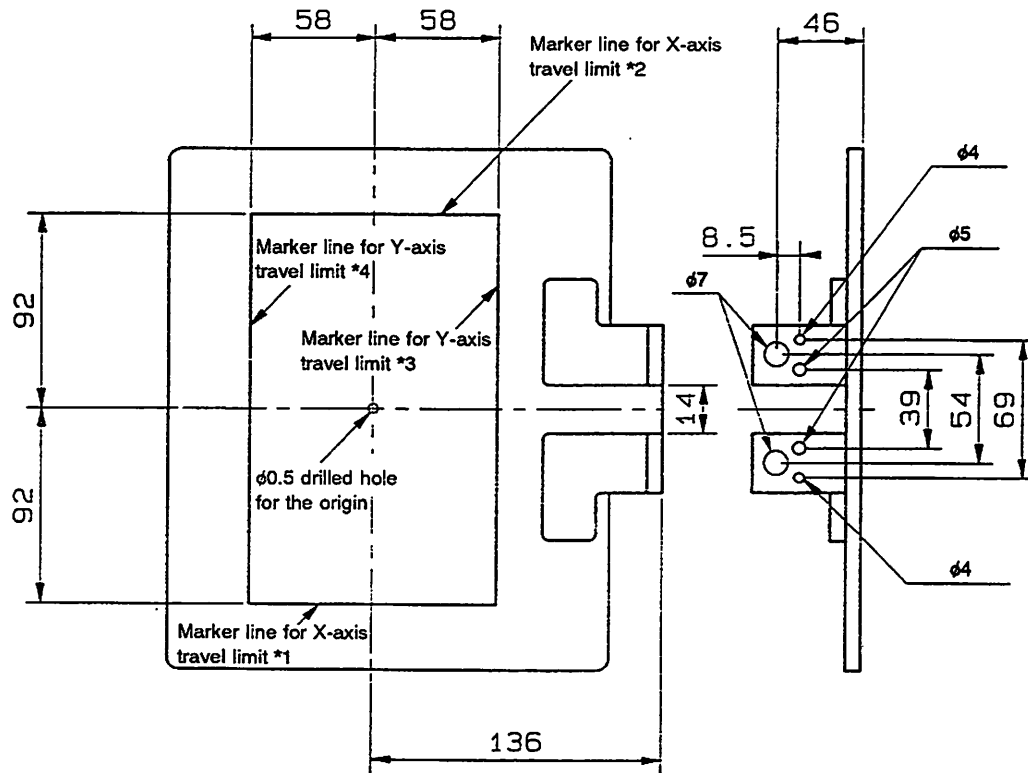
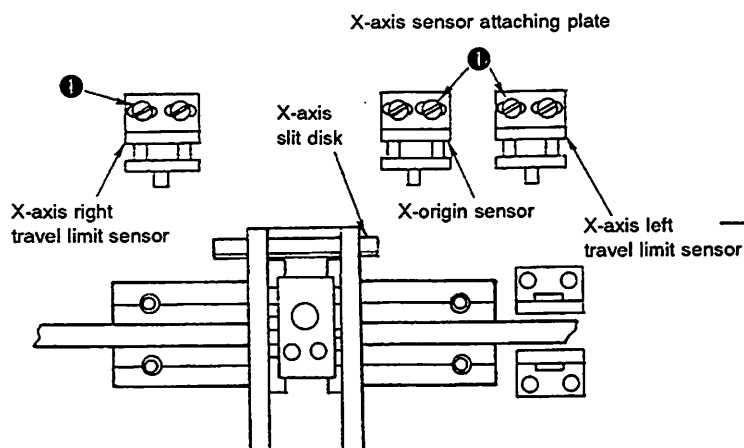
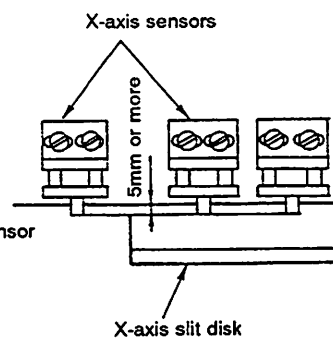

Fig. 5-33-5
Fig. 5-33-6
Fig. 5-33-7
(The related dimensions for the sensor adjusting gauge are shown in Fig. 5-33-5.)
- 4) Check the positions of origin and the X/Y travel limit referring to the "STANDARD ADJUSTMENTS (33)-1 Fine adjustment of the X/Y origin". (See Fig. 5-33-5)
<p>A. Adjusting the X-axis origin and travel limit sensor</p> <ol style="list-style-type: none"> 1) Remove the feed bracket auxiliary covers (left and right), and feed bracket cover. 2) Make the adjustments described in steps 1), 3) and 4) of the "STANDARD ADJUSTMENT (33)-1, A." 3) Press jog keys 4 (left), 6 (right), 8 (up) and 2 (down) on the operation panel to move the feeding frame. Align the needle point with the $\phi 0.5$ drilled hole for origin of the origin gauge. (Fig. 5-33-5) 4) Loosen setscrews 1, and move X sensor attaching plate asm. to the left or right until display (E) showing the X origin changes from 1 to 0. Immediately after the display has changed, tighten setscrews 1. (Fig. 5-33-3, Fig. 5-33-5) 5) Press jog key 6 (right) on the operation panel to move the feeding frame so that the needle point aligns with marker line V of travel limit *1. (Fig. 5-33-6, Fig. 5-33-3) 6) Loosen setscrews 1, and move X-axis right travel limit sensor attaching plate asm. to the left or right until display (F) showing the travel limit *1 changes from 1 to 0. Immediately after the display has changed, tighten setscrews 1. (Fig. 5-33-3, Fig. 5-33-6) 7) Press jog key 4 (left) on the operation panel to move the feeding frame so that the needle point aligns with marker line V of travel limit *2. (Fig. 5-33-3) 8) Loosen setscrews 1, and move X-axis left travel limit sensor attaching plate asm. to the left or right until display (D) showing the travel limit *2 changes from 1 to 0. Immediately after the display has changed, tighten setscrews 1. <p>[Caution] After making the adjustments, make sure that the X-axis slit disk enters the center of the clearance between the sensor photo-couplers and that the slit disk overlaps the top end of the sensor photo-coupler by 5 mm or more, when the X-axis slit disk passes through the three X-axis sensors. (Fig. 5-33-7) If they do not, adjust the clearance between the slit disk and the photo-coupler referring to "C. Clearance between the slit disk and the photo-coupler." Note that you should adjust the overlapping depth simultaneously with step 4), 6) and 8).</p>	<ul style="list-style-type: none"> ○ If the origin has not been properly adjusted: The origin for inputting a pattern fails to align with the origin for sewing the pattern. ○ If the travel limit has not been properly adjusted: The sewing area may be narrower. The stepping motor fails to stop even when the mechanical travel limit has been reached. As a result, an abnormal noise may be produced. <p>[Caution] If the machine is operated under the condition mentioned above, the feed mechanism components might become damaged. Never operate the machine until the proper adjustments have been completed.</p>